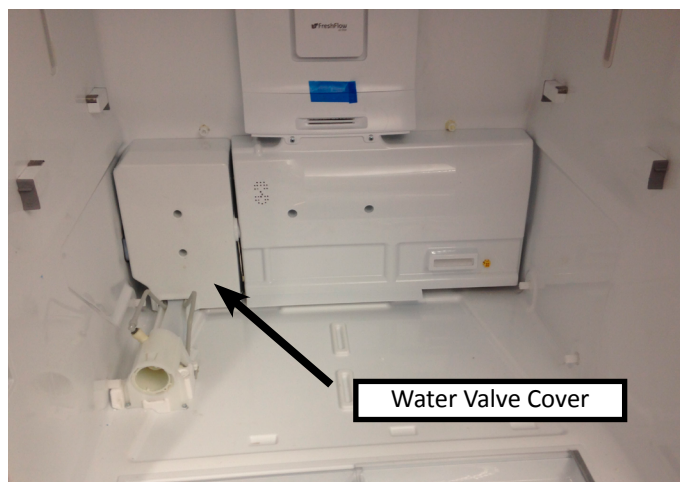

FIGURE 18: Water Valve Cover
2. Remove the Water Valve Cover (FIGURE 18).